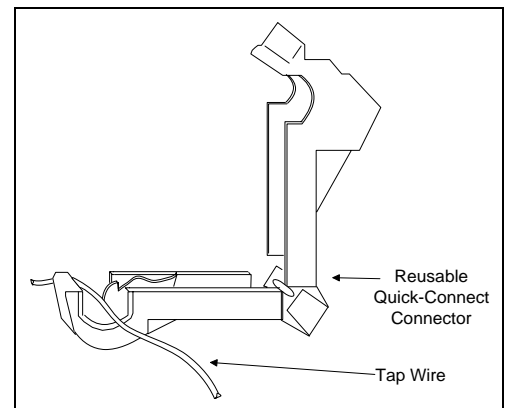

Figure 2. Attaching the Reuseable Quick-Connect Connector (V-5330200 Only)
3. Install the Quick-Connect connector on the wire. Use pliers to close the connector over the wire. The connector can be removed by prying it open with a screwdriver, and can be reused several times (see Figure 2).